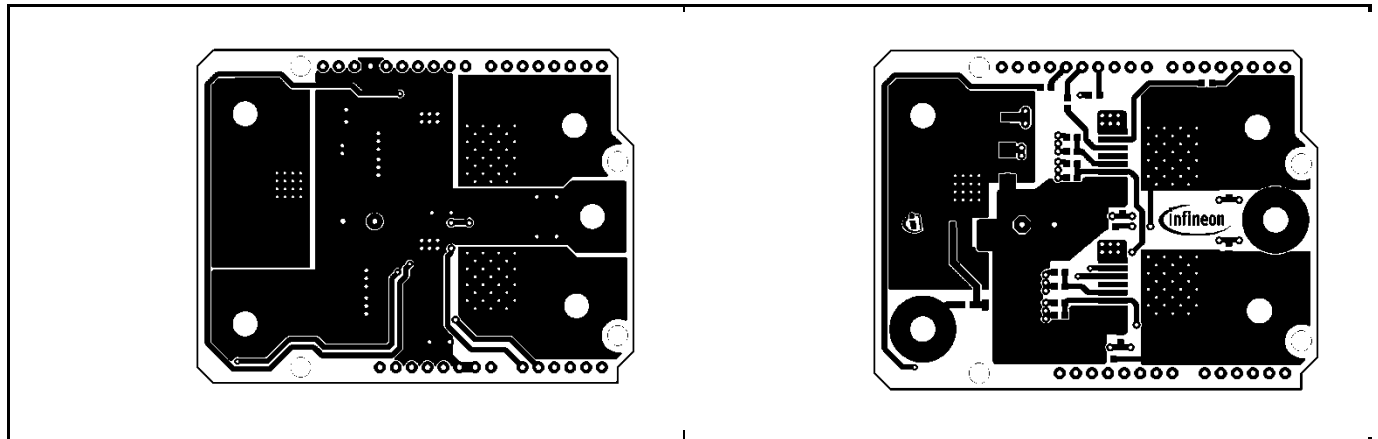
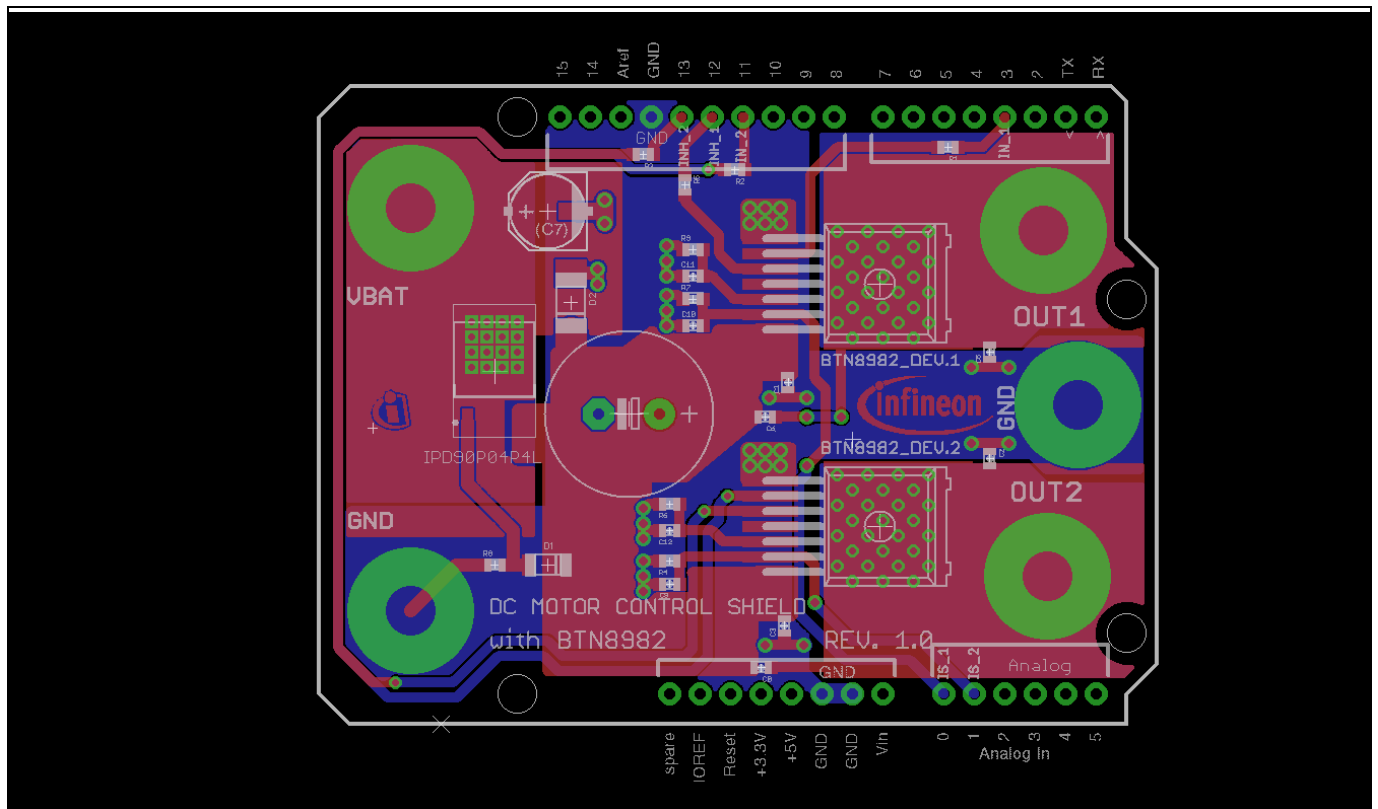

Figure 5 Motor Control Shield – Bottom and top layers
Figure 6 Motor Control Shield for Arduino with BTN8982TA – Layout
Figure 5 and Figure 6 show the layout of the Motor Control Shield. The layout follows the design rules in the BTN8960 /62 /80 /82 High Current PN Half Bridge NovalithIC™ Application Note (also see Chapter 2.3).
- C4, so called DC-link capacitor: This electrolytic capacitor is required to keep the voltage ripple at the Vs-pin of the NovalithIC™ low during switching operation (the applied measurement procedure for the supply voltage is described in Chapter 3.1 of the Application Note). It is strongly recommended that the voltage ripple at the NovalithIC™ Vs-pin to the GND-pin is kept below 1 V peak to peak. The value of C4 must be aligned accordingly. See therefore Equation (4.9) in the Application Note. Most electrolytic capacitors are less effective at cold temperatures. It must be assured that C4 is also effective under the worst case conditions of the application. The layout is very important too. As shown in Figure 6, the capacitor C4 must be positioned with very short wiring close to the NovalithIC™. This must be done to keep the parasitic inductors of the PCB-wires as small as possible.